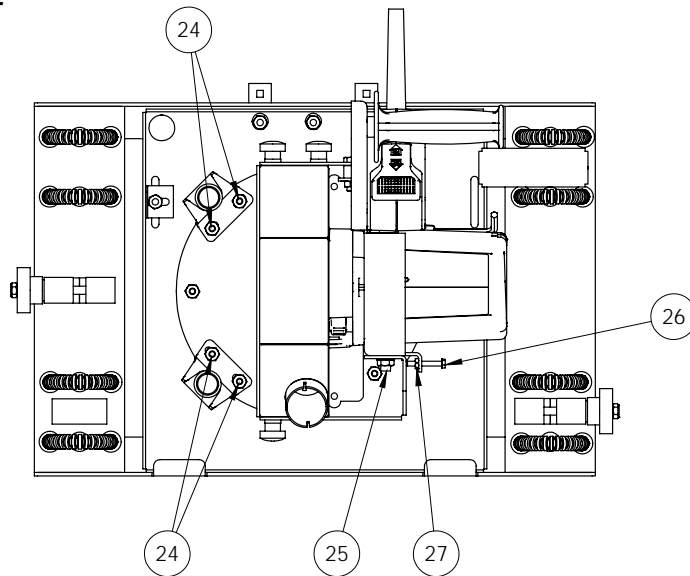

Figure 57: Adjusting Blade Perpendicularity (SR5 & SR5A) shown)
- a. Loosen (but do not remove) the four hex-head nuts holding the indexing pin assembly (Fig. 57, #24).
1. If the tool does not cut at 90° to the surface (face) of the work piece, loosen the two motor mount nuts (Fig. 57, #25).